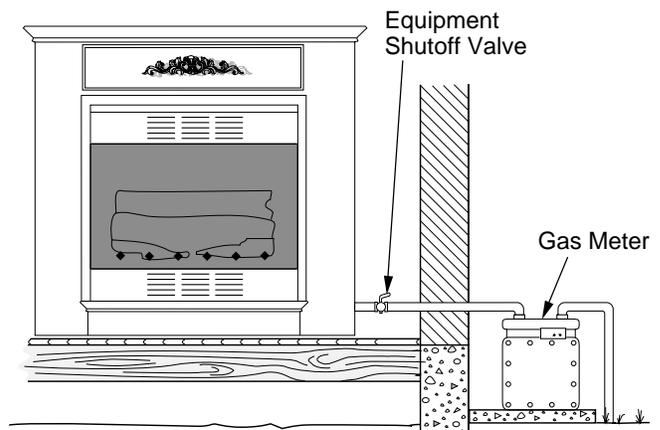
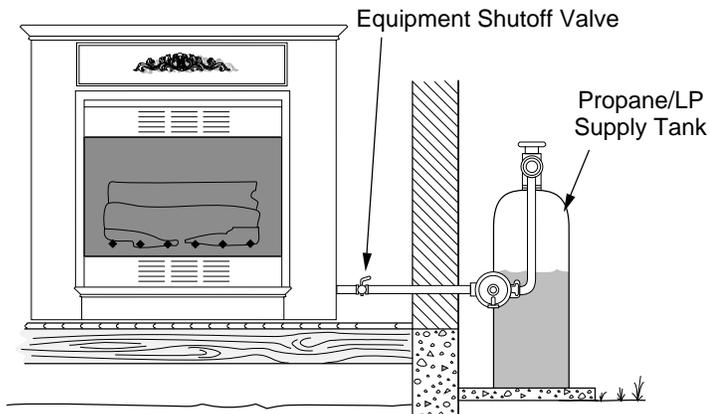

Figure 25 - Checking Gas Joints for Natural Gas Unit (Shown With Optional Mantel)
Figure 26 - Checking Gas Joints for Propane/LP Units (Shown with Optional Mantel)
3. Check all joints from gas meter for natural gas (see Figure 25) or propane/LP supply tank to equipment shutoff valve for propane/LP gas (see Figure 26, page 15). Apply noncorrosive leak detection fluid to gas joints. Bubbles forming show a leak.